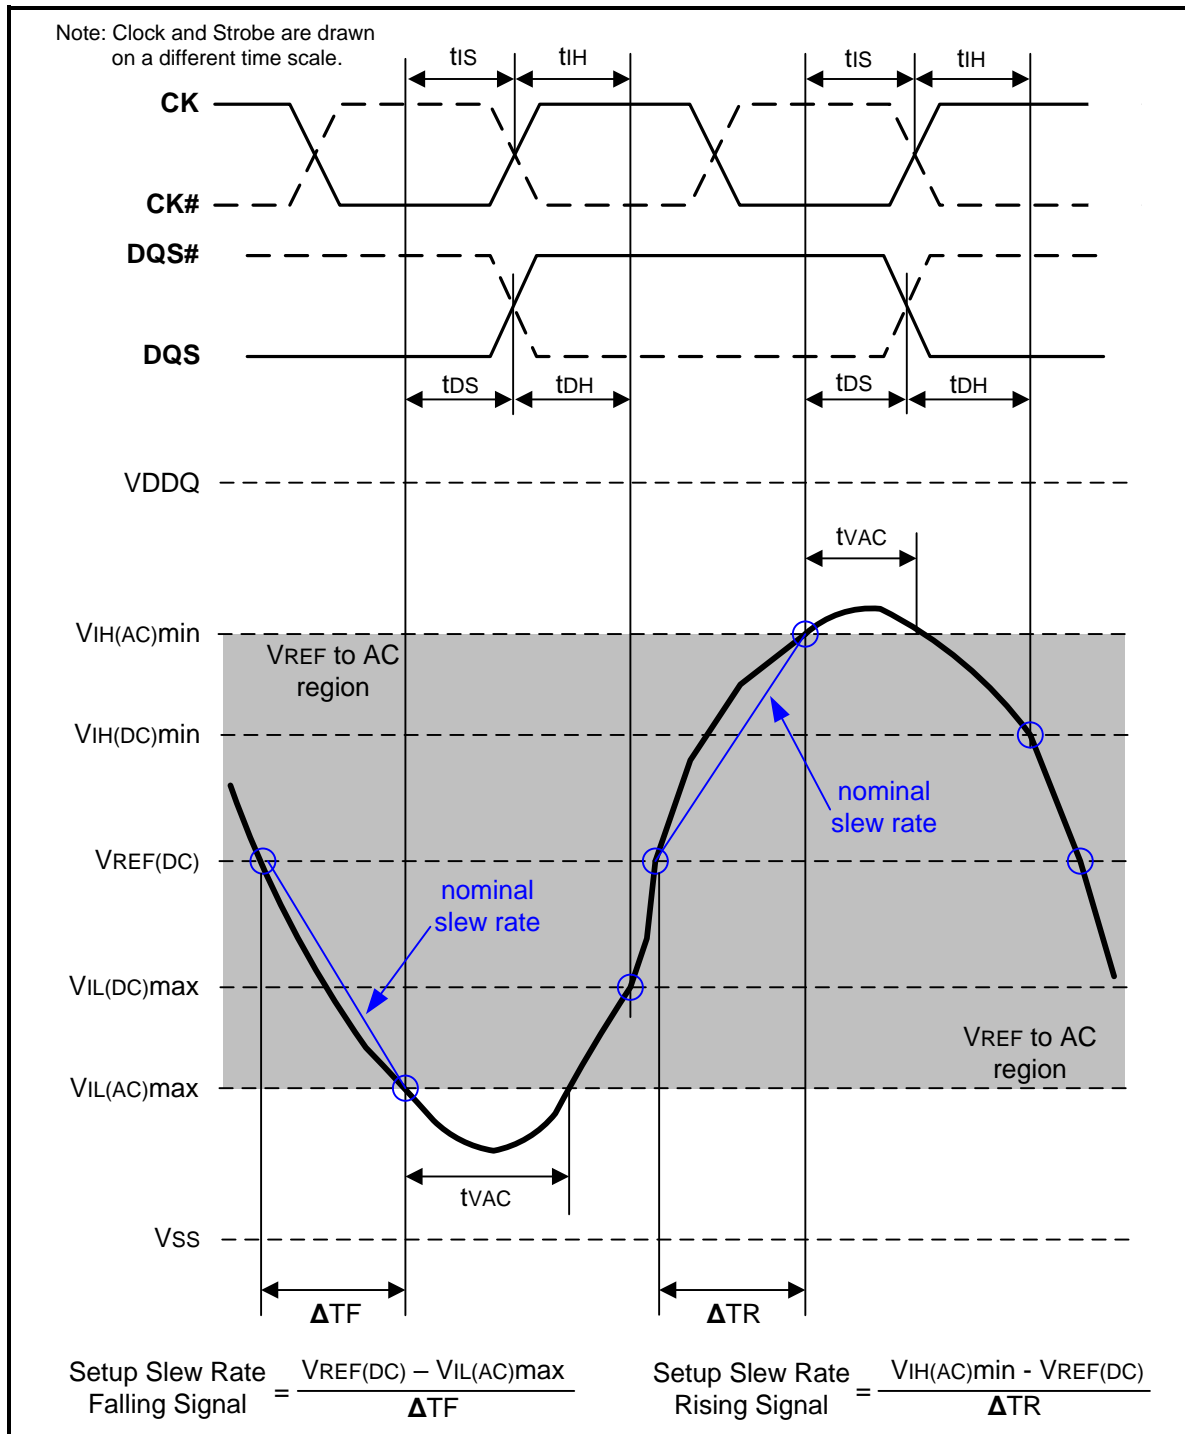
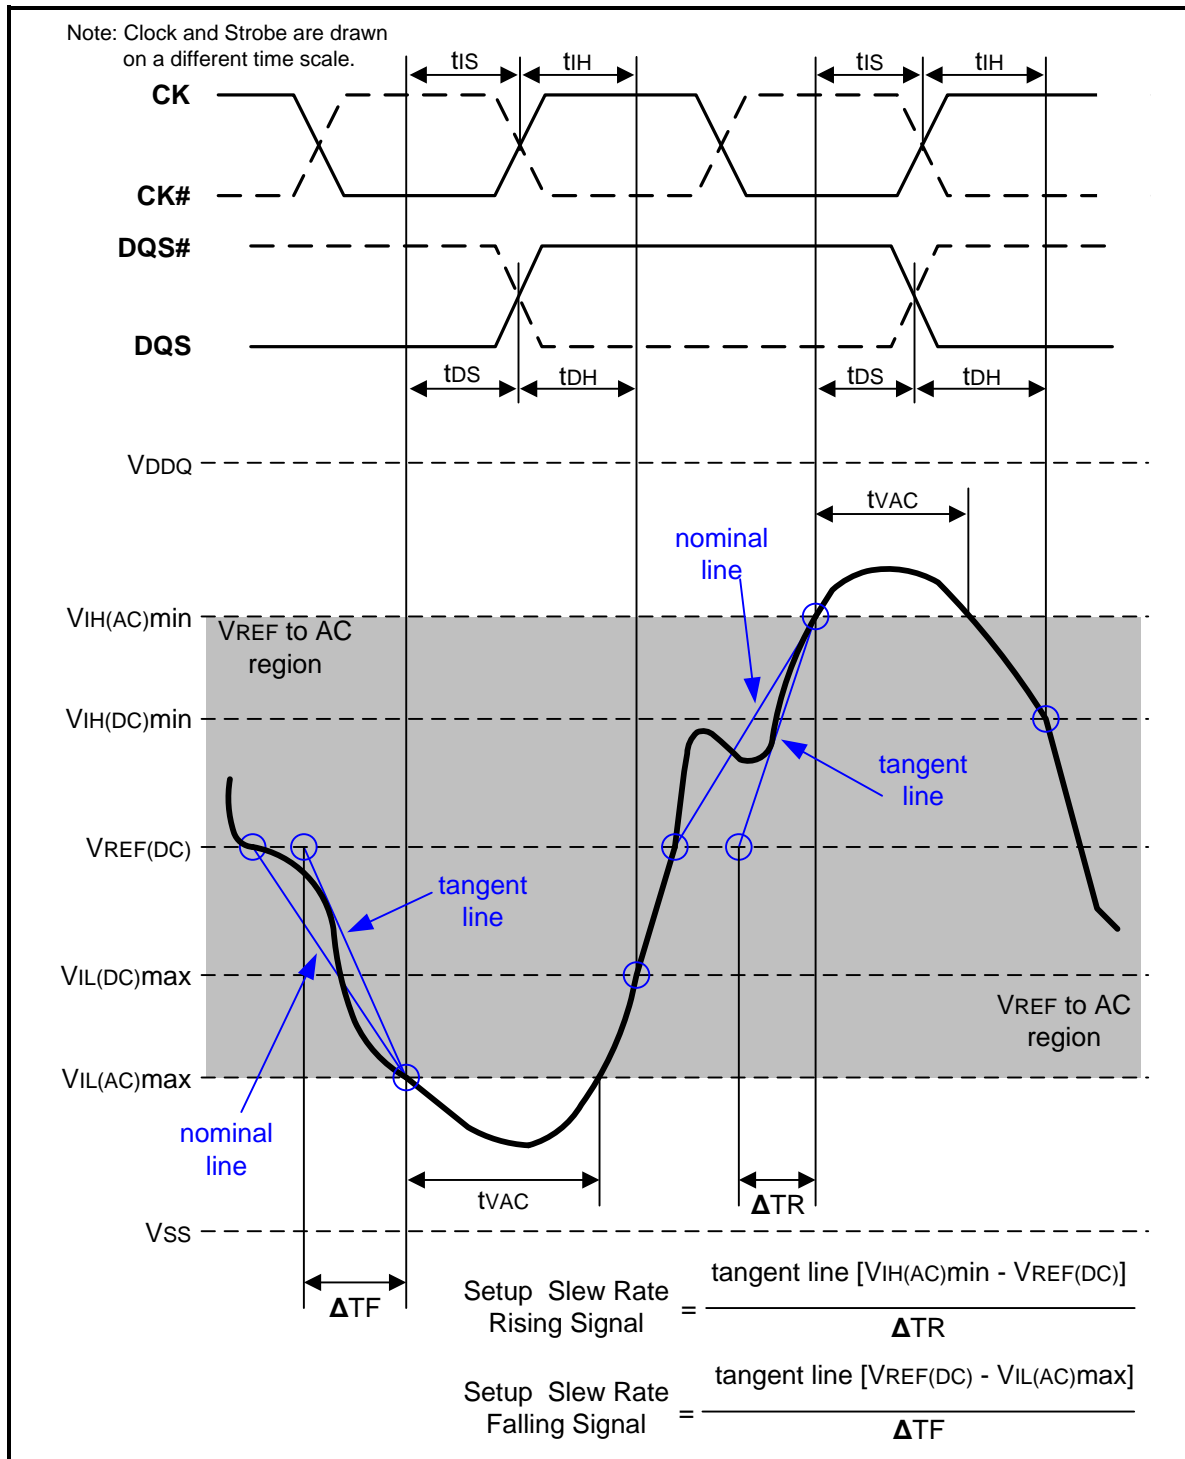

Figure 107 – Illustration of nominal slew rate and t_{VAC} for setup time t_{DS} (for DQ with respect to strobe) and t_{IS} (for ADD/CMD with respect to clock)
Figure 109 – Illustration of tangent line for setup time t_{DS} (for DQ with respect to strobe) and t_{IS} (for ADD/CMD with respect to clock)
Setup (tDS) nominal slew rate for a rising signal is defined as the slew rate between the last crossing of VREF(DC) and the first crossing of VIH(AC)min. Setup (tDS) nominal slew rate for a falling signal is defined as the slew rate between the last crossing of VREF(DC) and the first crossing of VIL(AC)max (see Figure 107). If the actual signal is always earlier than the nominal slew rate line between shaded 'VREF(DC) to AC region', use nominal slew rate for derating value. If the actual signal is later than the nominal slew rate line anywhere between shaded 'VREF(DC) to AC region', the slew rate of a tangent line to the actual signal from the AC level to VREF(DC) level is used for derating value (see Figure 109).